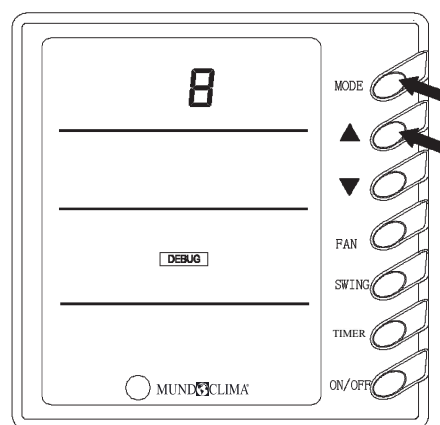

Fig.11
14) Set the address code of the wired controller (Fig.11)